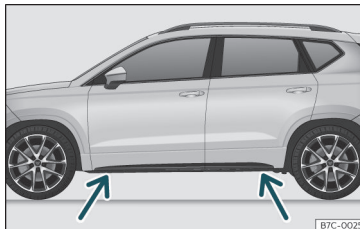

Fig. 35 Jack position points.
- Find the support point on the strut (sunken area) closest to the wheel to be changed >>> Fig. 35.